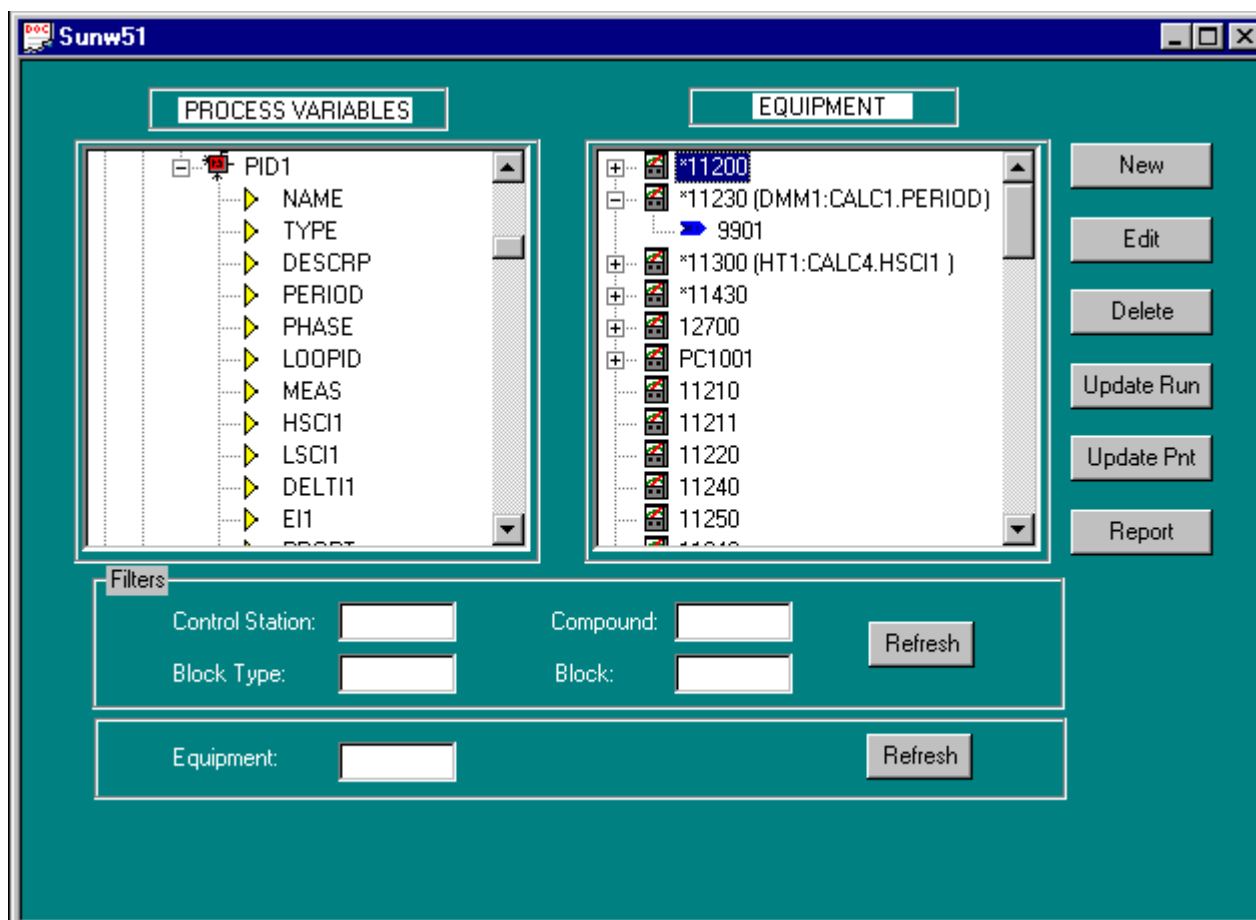

Figure 6. FoxDMM Configurator Main Dialog Box
The FoxDMM Configurator provides the linking mechanism between the maintenance database and the I/A Series control system. It allows the user to link and configure monitoring parameters for equipment and measurement points already established in the maintenance database to I/A Series process variables. This equipment linking feature is evident in the two-column configurator main dialog box that is shown in Figure 6.
1. Link the I/A Series process variable with an equipment tag name by clicking on a process variable from the left-hand column of Figure 6. Then drag and drop the variable onto the equipment tag name in the right-hand column.